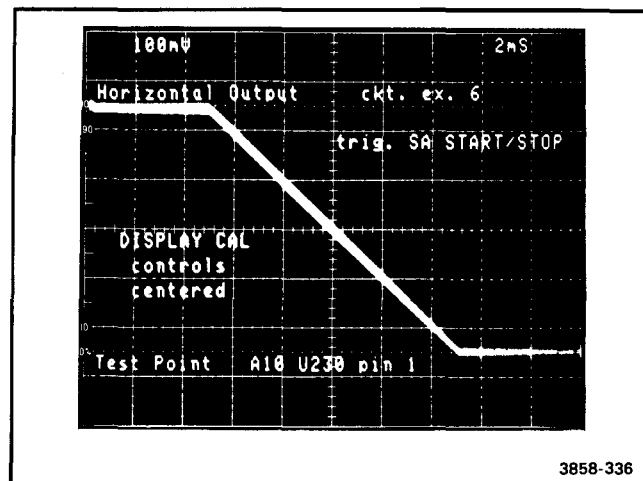

Figure 3-16. Waveform for Horizontal Output test.
32) Horizontal Output (6). If this test fails, place the Display Board on an extender and run circuit exercise 6. Use an oscilloscope to troubleshoot the Horizontal Output. Waveform Figure 3-16 is a typical output of this test. The SA Start/Stop line provides a stable oscilloscope trigger while using this test for troubleshooting.